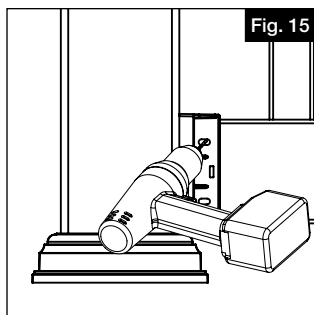

Fig. 15
- For each installed bracket, pre-drill in the center of each elongated hole with a $\frac{1}{8}$ " drill bit (Fig. 15).